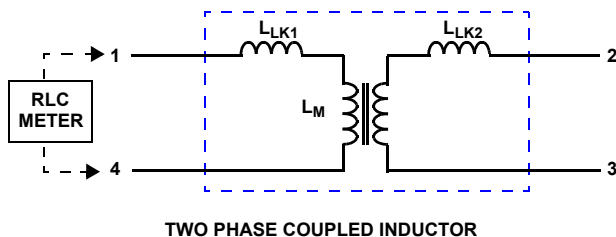

FIGURE 4. EQUIVALENT MAGNETIC CIRCUIT OF THE COUPLED INDUCTOR
The leakage inductance of the CI must be determined to design and model with CI's, including using Equations 3-8. There are several methods for accurately determining the leakage inductance per phase of the coupled inductor; two methods are outlined here. Figure 4 depicts an equivalent magnetic circuit for the coupled inductor.
1. Leave the secondary winding, pins 2 and 3 in Figure 4, open circuit. The measured inductance from pins 1 to 4 is the primary winding inductance or self inductance. Call this L .
2. Short circuit the secondary winding, pins 2 and 3 in Figure 4. The measured inductance from pins 1 to 4 is the leakage inductance of the primary plus the reflected leakage from the secondary. Call this L_s .